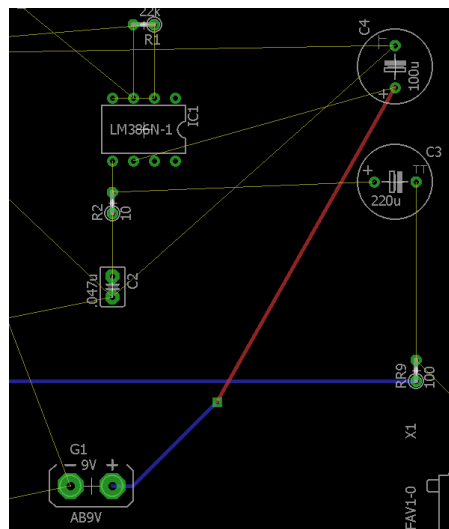

Figure 13
7. To create a via, start by running a normal trace, when the traces are about to intersect, left click the mouse to place the trace and then select the desired layer from the dropdown layer in the upper left corner of the screen. Eagle will automatically place a via and the trace will be on the desired layer. **Figure 13** shows a trace that starts on the bottom layer and then crosses over to the top layer of the board. The via is denoted by a green square with a circle in the center of it.